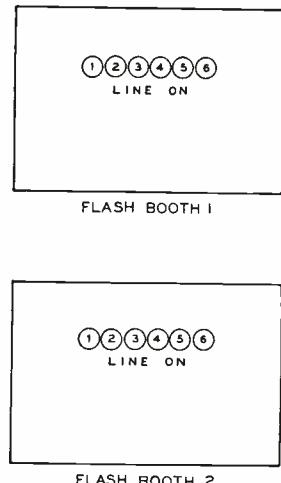

Figure 5
also incorporates the pertinent controls for the two Flash Channel Announcing circuits. Each outgoing line has a three-position key designated FLASH ALERT and a push button key for FLASH ON. The FLASH ALERT key is to automatically preset the outgoing line or lines to either one of two flash announce booths, simultaneously sending a synchronized signal to the respective studios where program is to be interrupted. This synchronized signal will appear concurrently at three places for each individual line in the form of (1) Flashing the LINE ON and GO AHEAD lamps on the associated Studio Control Indicator Panels (2) the ON AIR lamp on the Line Control Panel indicating to Master Control the studios and (3) lines being alerted. The Flash Announcer also receives a like indication. This synchronized ALERT signal continues until the desired Individual Line FLASH ON push button or FLASH GROUP key is operated, thereby "picking up" on all lines which were preset for flash by the FLASH ALERT keys. The Flash Announcers Indicator panel lamps, shown in Figure 5, then remain steadily illuminated for the designated outgoing lines being fed providing an automatic synchronized GO AHEAD signal to the Flash Announcer.
**FLASH ANNOUNCERS INDICATOR PANEL — Figure 5, page 24 (Located in Flash Announce Booth)**